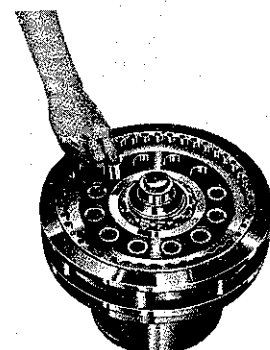

Fig. 8
- 3) Remove the cooling fan cover and fan from those Speed Reducer types (not motorized) equipped with a cooling fan, and stand the unit on a solid base with its high speed shaft side down. Remove the through bolts for the high speed end shield, ring gear housing, and lift the slow speed side, thus separating the unit into two parts so that the inner mechanism can be removed (Figs 8--12).
- 6) Take out the slow speed shaft rollers, item 15, page 8 (Fig 8). Check the slow speed shaft pins (13), to see whether any rollers have adhered to them.
- 7) The top cycloid disc (11) on the slow
- 8) Insert slow speed shaft rollers (Fig. 8).